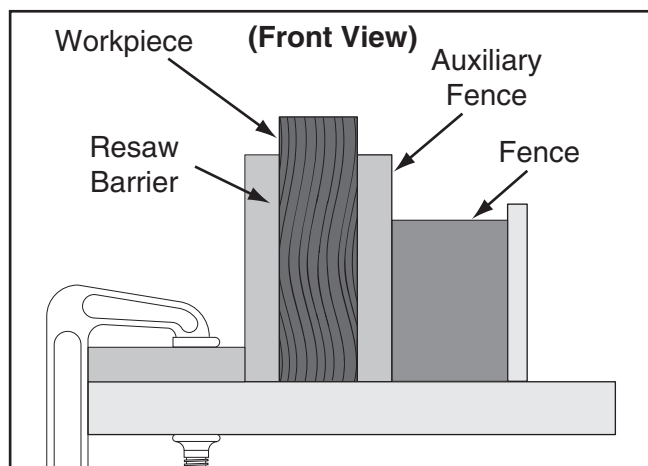

Figure 74. Ideal resaw workpiece setup.
5. Place the workpiece against the auxiliary fence and slide the resaw barrier against the workpiece, as shown in **Figure 74**. Now clamp the resaw barrier to the top of the table saw at both ends.